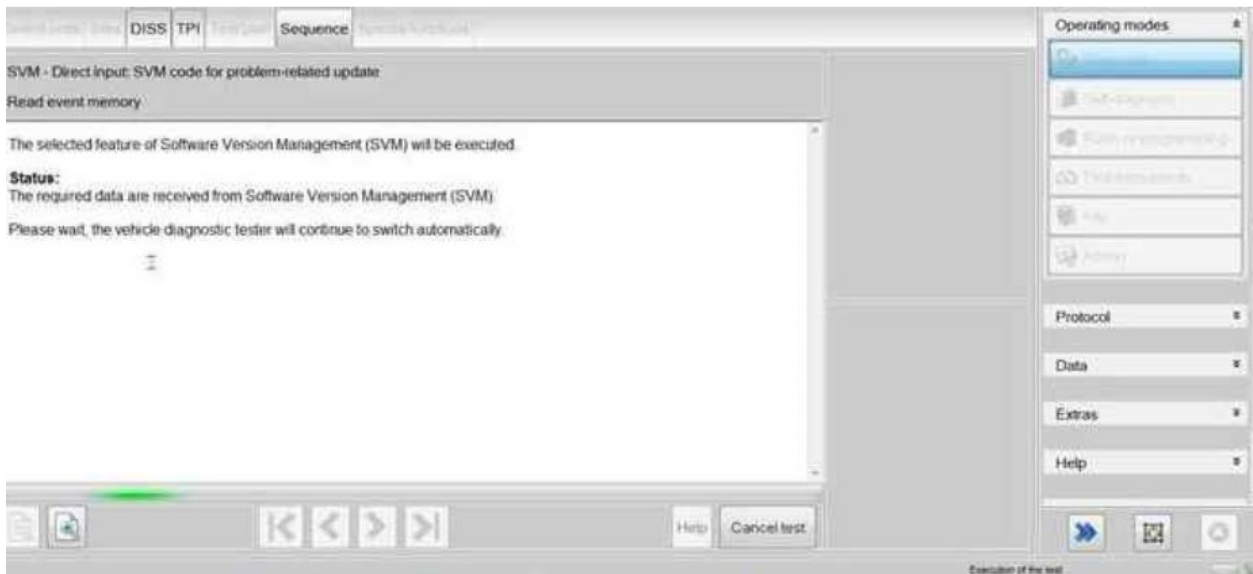

Figure 2
2) On the next screen enter the correct SVM code (Figure 2) depending on model as shown below